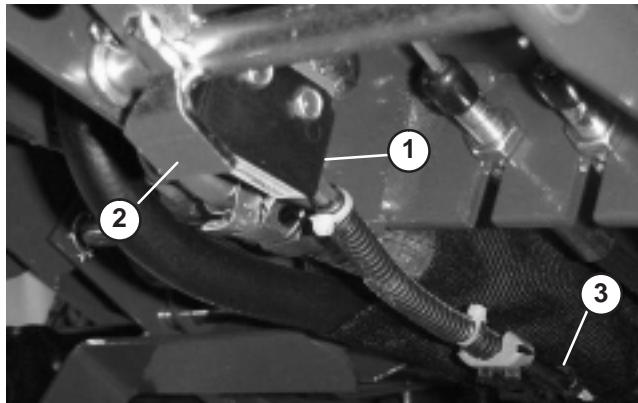

Figure 61
1. Gap between parking brake shaft pivot paddle and bottom of interlock switch (Fig. 61) should be approximately 1/16" (Paddle must not contact switch).